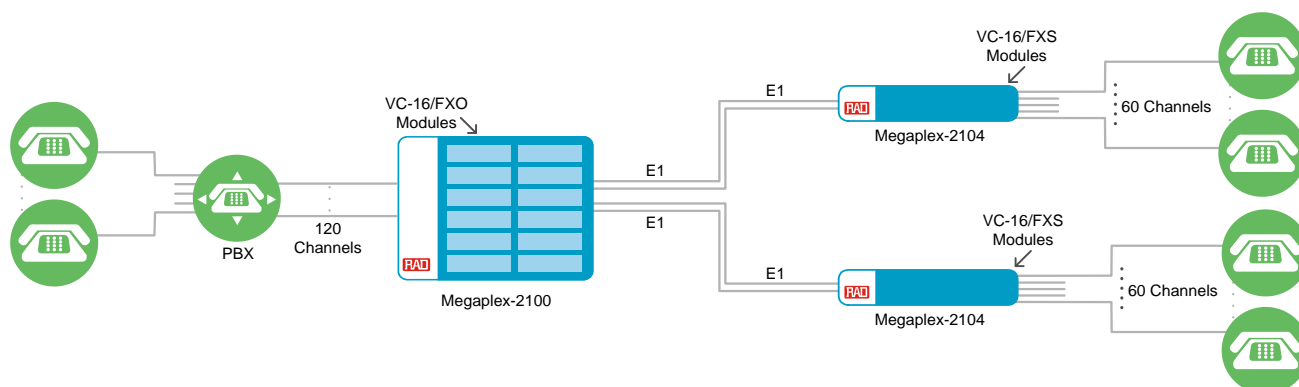

Figure 3. Multipoint, Off-Premises Extension of 120 PCM Voice Channels Using 4 E1 Links
- Off-Premises Extension (OPX), where a local telephone on the PBX can be connected to an off-premises telephone, by dialing only the extension number (see *Figure 3*);